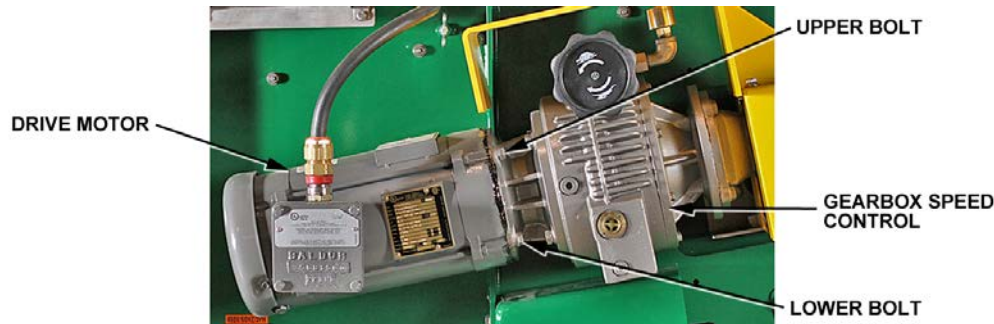

Figure 5-5. Drive Motor Installation
3. Remove two lower bolts securing motor to gearbox speed control (Figure 5-5).